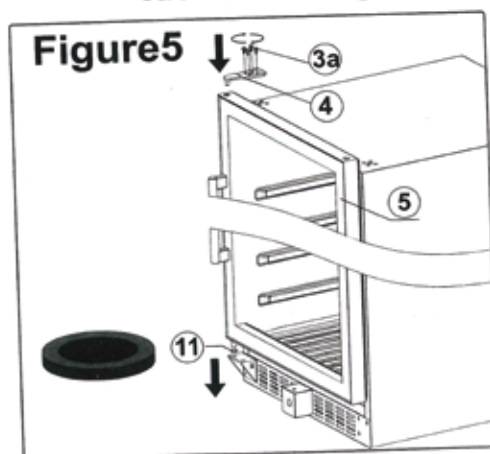

Figure 5
**4th step** - To reinstall the door to the opposite side, insert the door support rod to the bottom hinge through a washer **11** and screw the upper hinge which has connected with the door. Finally, cover the hinges **4** as well as the hinge screw holes. See **Figure 5 & 6**.